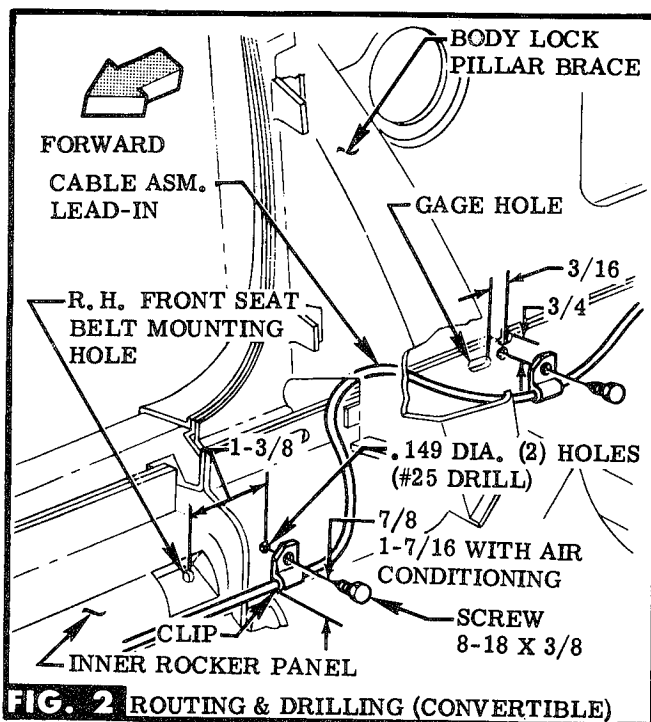

FIG. 2 ROUTING & DRILLING (CONVERTIBLE)
TINUE ROUTING CABLE ALONG INNER ROCKER PANEL THRU HOLE IN BODY LOCK PILLAR BRACE TO FRONT OF VEHICLE. LOCATE, CENTERPUNCH & DRILL NECESSARY HOLES (2) FOR CLIP ATTACHMENT. POSITION CLIPS OVER CABLE ASM. & ATTACH TO INNER ROCKER PANEL WITH SCREWS. SEE FIG. 2.